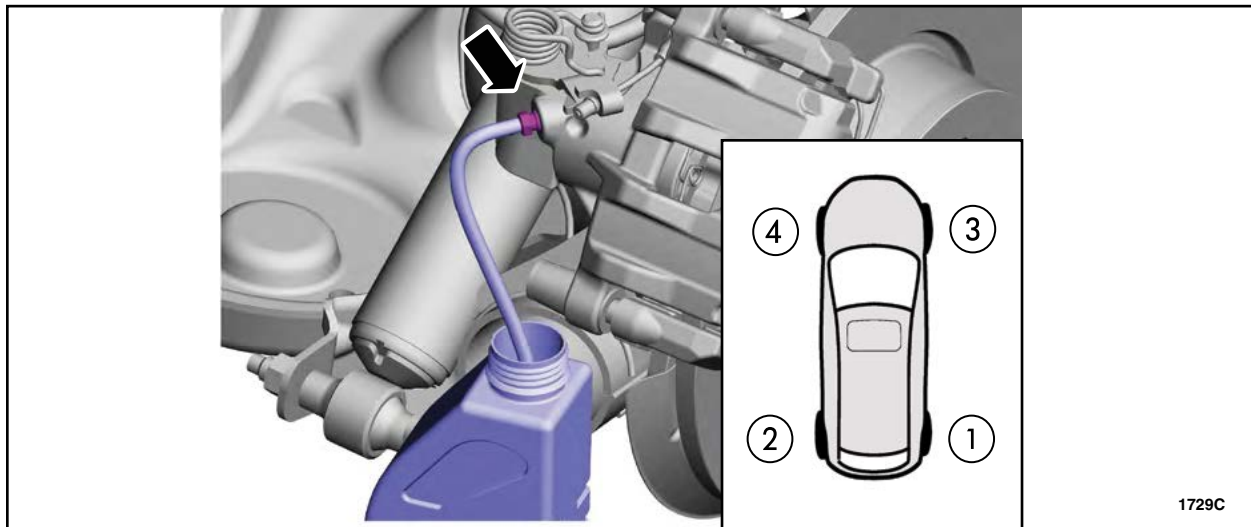

FIGURE 24
**NEW !** 6. Loosen all four caliper bleeder screws in the order indicated. See Figure 24. Allow approximately 10 fl oz (295.7 mL) to drain from each bleeder screw **one wheel at a time**.